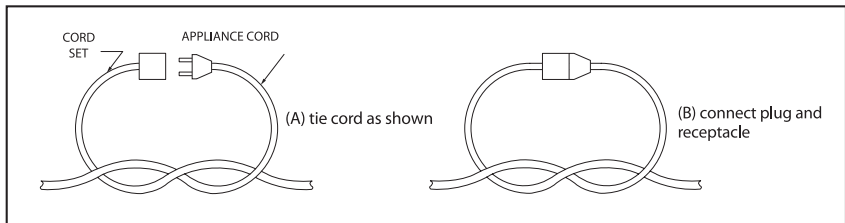

Figure 1: Method of securing extension cord
- 1) Make a knot as shown in Figure 1